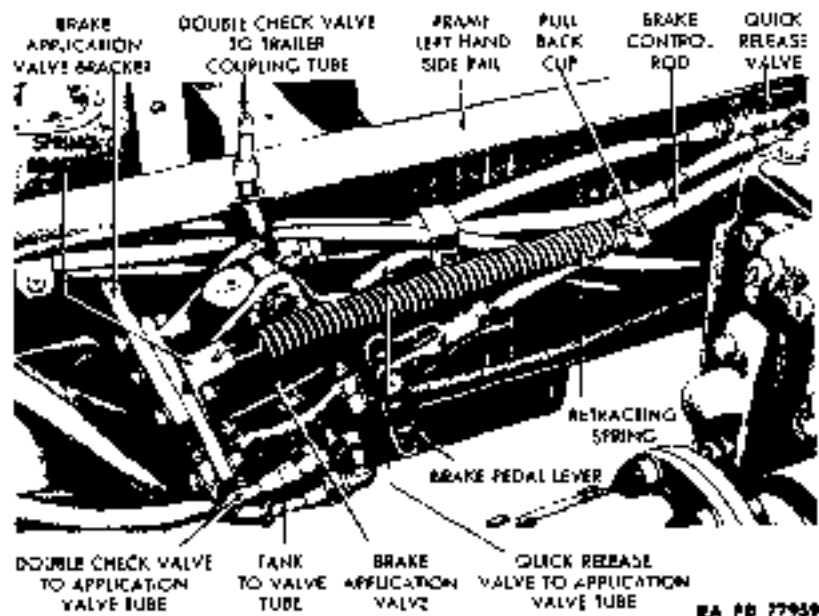

Figure 66 — Brake Application Valve Installed
(1) **DESCRIPTION** (fig. 66). The brake application valve is mounted on a bracket on inside of main frame left-hand side rail under front edge of frame platform, and is connected by a rod to the brake pedal. When pedal is depressed, the valve admits air to brake diaphragm chambers to operate brakes. When pedal is released, the valve exhausts pressure from brake diaphragm chambers to release brakes. Amount of pressure built up or exhausted is in direct proportion to amount of pedal travel.
b. Removal (fig. 66).
c. Installation (fig. 66).